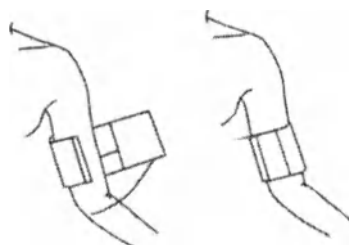

Fig. 9-5 Applying the cuff
- 3) Apply the cuff to the patient; make sure that the symbol “Φ” is over the appropriate artery (Refer to figure 9-5). Ensure that the cuff is not wrapped too tightly around the limb. Excessive tightness may cause discoloration and eventual ischemia of the extremities.